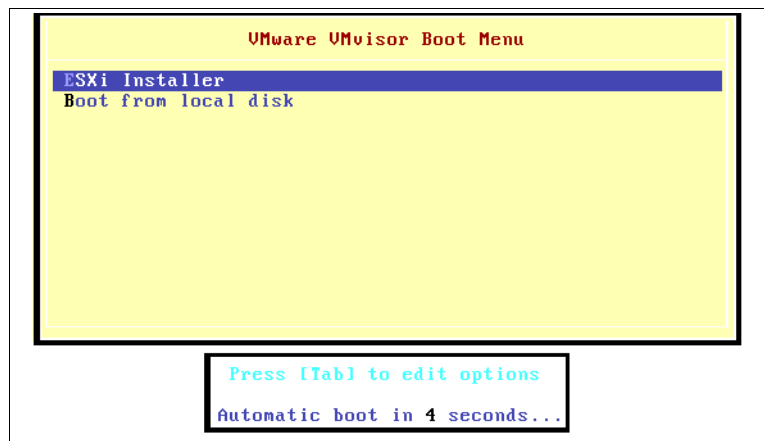

Figure 5-85 Boot Menu
1. Start the installation from *VMware VMvisor Boot Menu*, as shown in Figure 5-85.